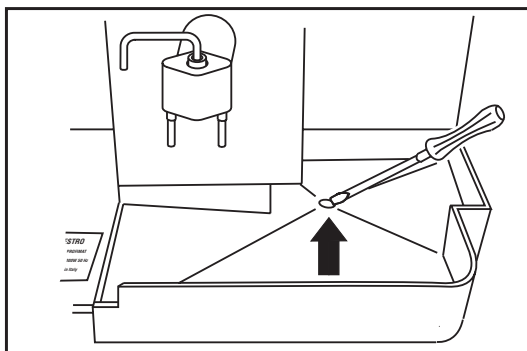

Fig. 4
- On the bottom of the drip tray, there is a marked section (fig.4) which can be removed with a screw driver.